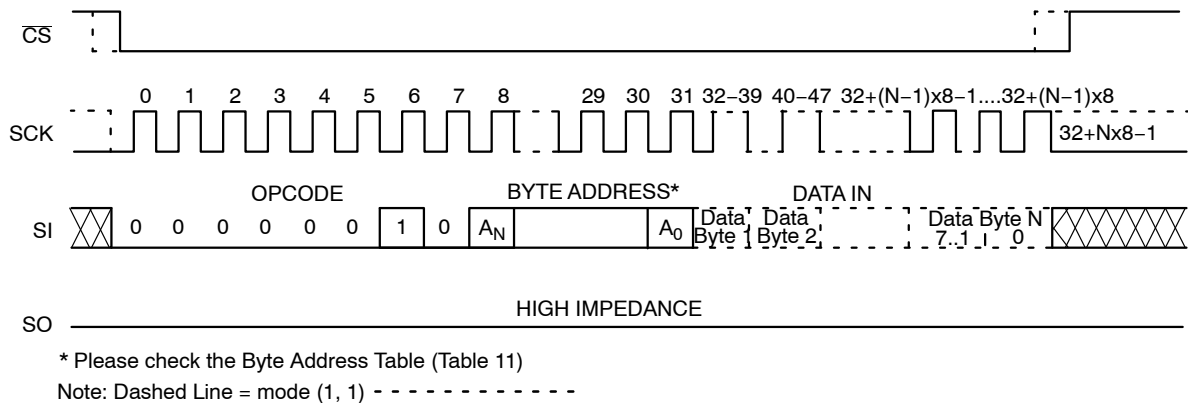

Figure 6. Page WRITE Timing
After sending the first data byte to the CAT25M01, the host may continue sending data, up to a total of 256 bytes, according to timing shown in Figure 6. After each data byte, the lower order address bits are automatically incremented, while the higher order address bits (page address) remain unchanged. If during this process the end of page is exceeded, then loading will "roll over" to the first byte in the page, thus possibly overwriting previously loaded data.
The additional 256-byte Identification Page (IP) can be written with user data using the same Write commands sequence as used for Page Write to the main memory array (Figure 6). **The IPL bit from the Status Register must be set (IPL = 1) using the WRSR instruction, before attempting to write to the IP.**